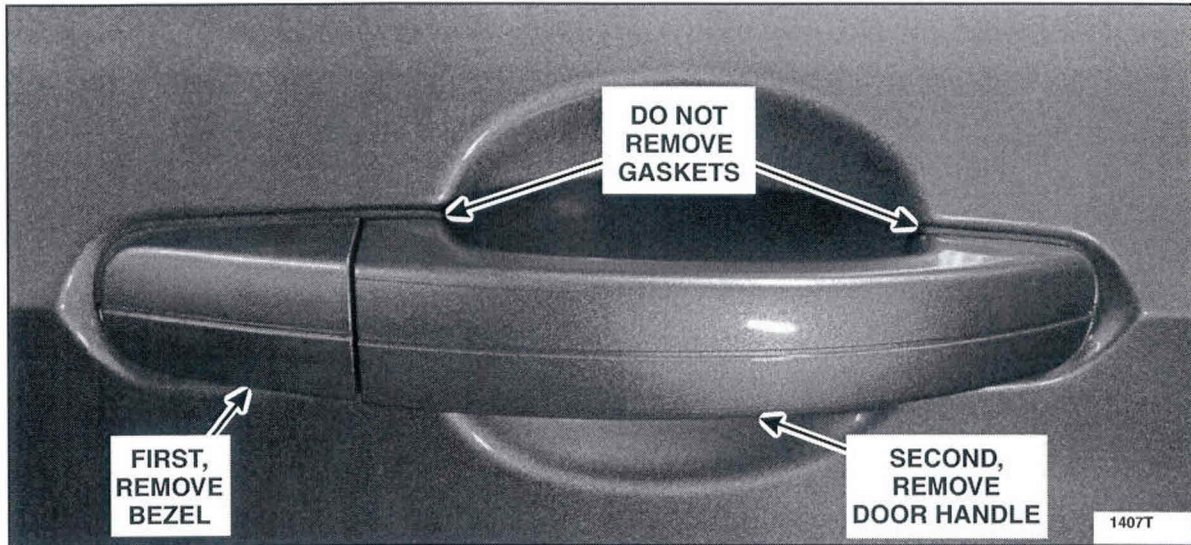

FIGURE 7
3. Remove the bezel and the door handle (**do not** remove gaskets). See Figure 7.
6. Install the door handle and bezel. See Figure 7.